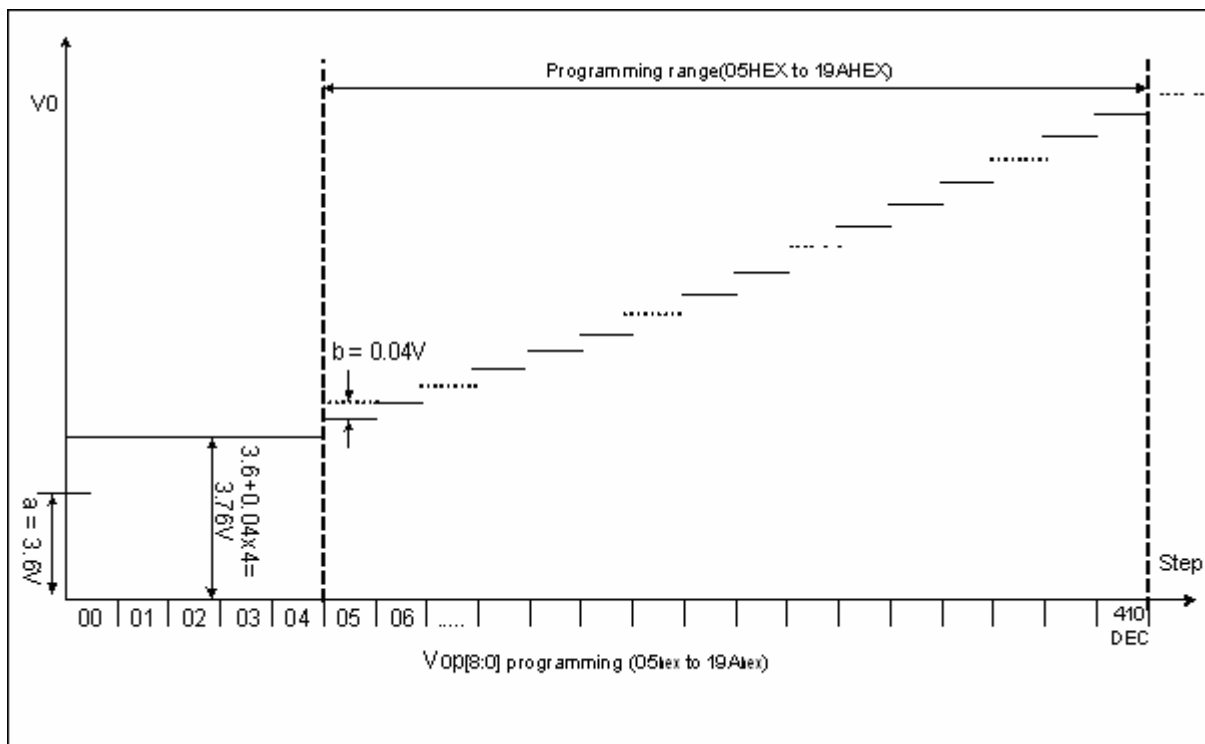

Figure 7.10.2 VOP programming range
The VOP[8:0] value must be in the VOP programming range as given in Figure 7.10.2. Evaluating equation (1), values outside the programming range indicated in Figure 7.10.2 may result. Calculated values below 4 will be mapped to VOP[8:0] = 4, resulting VOP[8:0] values higher than 410 will be mapped to VOP[8:0] = 410. Sitronix suggests Vop range equals 4.5V to 18V.